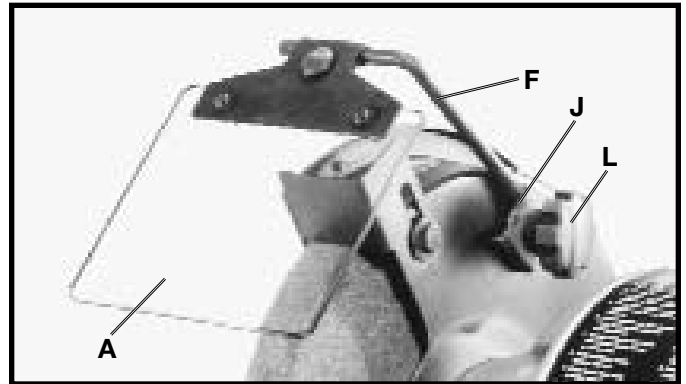

Fig. 7
2. Insert the short end of mounting rod (F) Fig. 7, into hole of frame (B) and fasten in place with 1/4-20x3/4" carriage head screw (G), 5/16" lock washer (H), and 1/4-20 hex nut (I).
3. Assemble long end of eye shield mounting rod (F) Fig. 7, to the side of each wheel guard using bracket (J), 3/8" lockwasher and locking knob (L). The eye shield (A) is fully adjustable so it can be put in any position by moving the shield (A) or loosening locking knob (L) and repositioning rod (F).